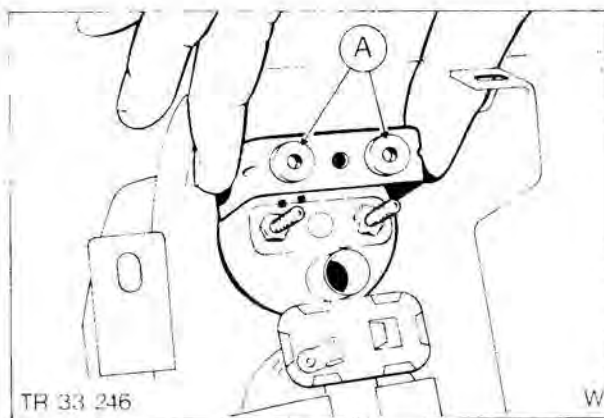

Fig. 28. Aligning gauge securing bracket. Ensure plastic insulators 'A' are correctly positioned and not damaged
6. Align gauge in facia aperture and secure by fitting retaining bracket and two knurled fasteners. Fig. 28.